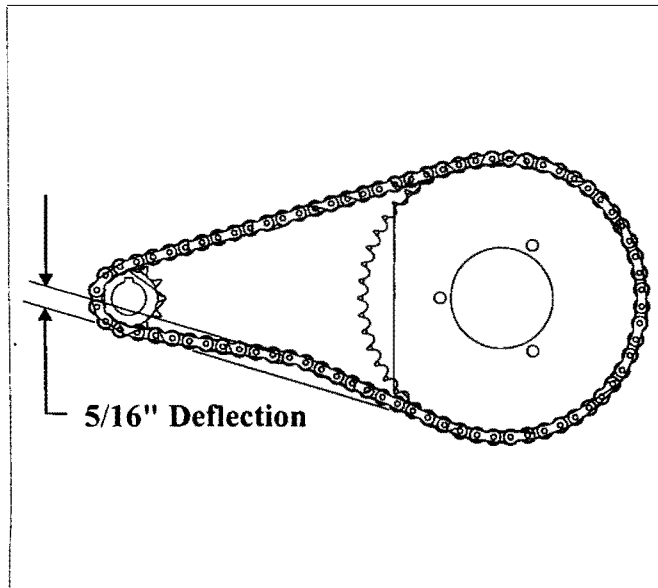

Figure 31
*To increase chain tension:* loosen the four (4) engine mount-to-engine base bolts and pull the engine away from the electric clutch. Re-tighten bolts. See Figure 31.